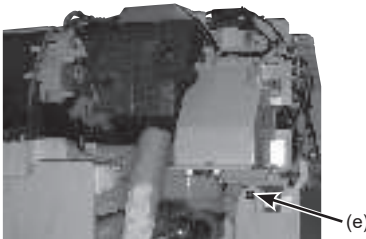

Fig. 6-7
- (9) Remove the screw of the electrical box. (Fig. 6-7)